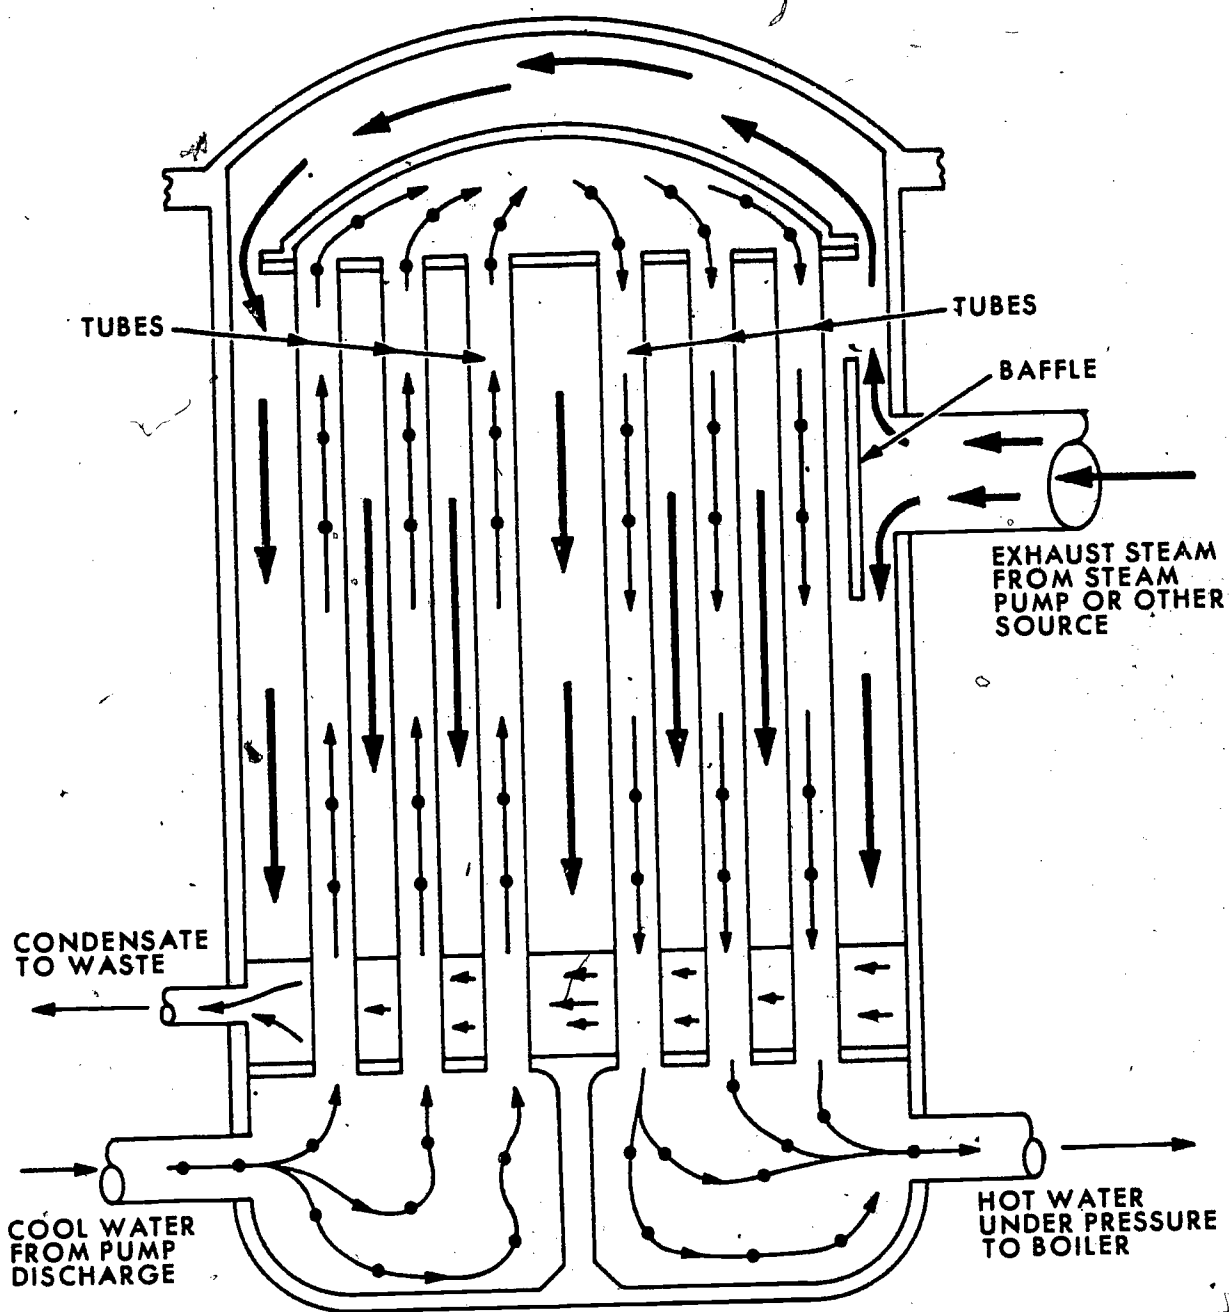

Figure 19. Closed-type feed-water heater.
4. **Closed-Type Heater.** The closed-type feed-water heater is constructed so that the steam which heats the water and the water do not come into direct contact. They are separated from each other by metal surfaces such as tubes. The tank of the heater is supplied with steam, and the water passes through tubes heated by the steam. Figure 19 illustrates a typical closed-type feed-water heater. The closed-type feed-water heaters are not very common on military installations; however, some posts have them installed.